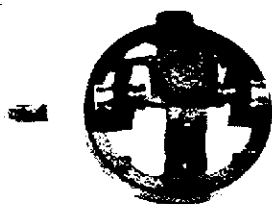

Figure 2
3. Check motor brushes periodically. They are readily accessible by unscrewing brush cap (see figure 2). In general, brushes should be replaced when they are worn to about 1/4" length. To renew, order set of two complete assemblies, and be sure to replace brushes with radius fitting the contour of the armature as shown in figure 2. Then tightly screw on brush cap.